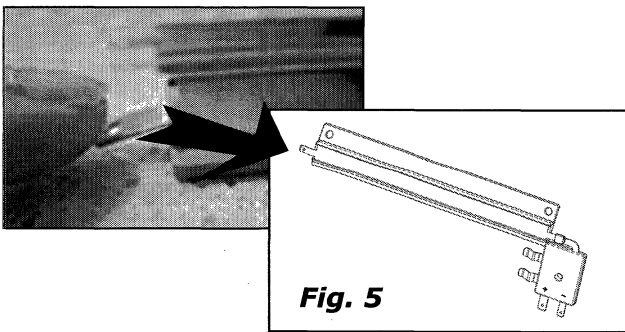

Fig. 5
7. Bend slow down strip tab (at opposite end from charge contact) down slightly (Fig. 5). Do not let tab touch rail!